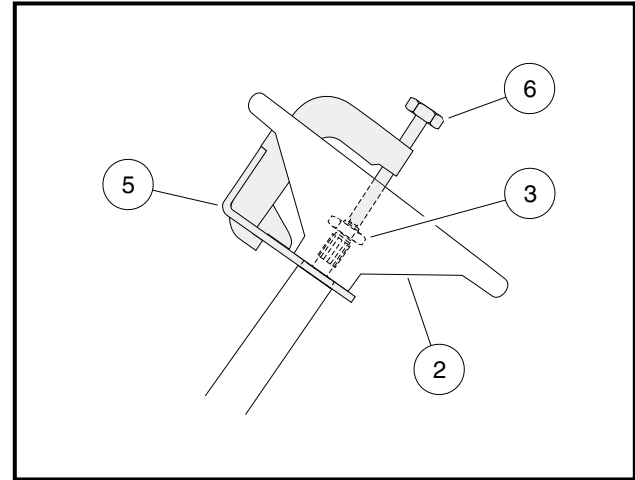

Figure 7-2 Steering Wheel Puller
- 5.3. Rotate the anvil screw (6) clockwise until the base plate contacts the bottom of the steering wheel where it attaches to the steering column **(Figure 7-2, Page 7-2).**